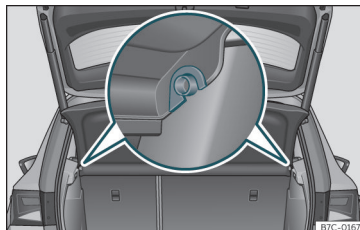

Fig. 136 In the boot: removing and installing the shelf.
- Remove the rear shelf from the side supports >>> **Fig. 136** by pulling it upwards and then take it out.
- Insert the cover horizontally so that the “recess” fits onto the axis of the supports >>> **Fig. 136** and press down until it engages.